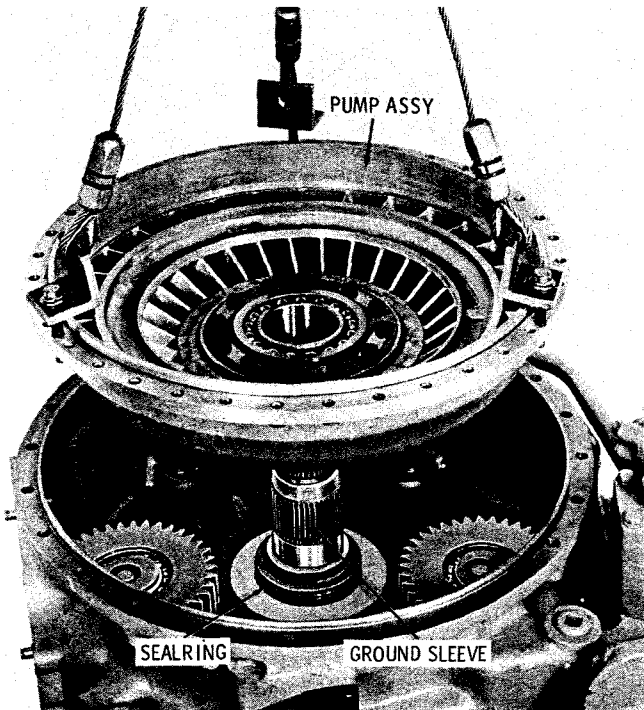

Fig. 7-73. Installing torque converter pump assembly
(1) Install the Teflon step-joint sealring onto the ground sleeve (fig. 7-73). (Two hook-type sealrings are used on earlier models.)
(2) Install the torque converter pump with the input accessory drive gear onto the torque converter ground sleeve (fig. 7-73). Index the accessory drive gear with the power takeoff idler gear (if used) and the oil pump idler gear. Tap on the inner race of the converter pump bearing to seat it against the shoulder on the ground sleeve.